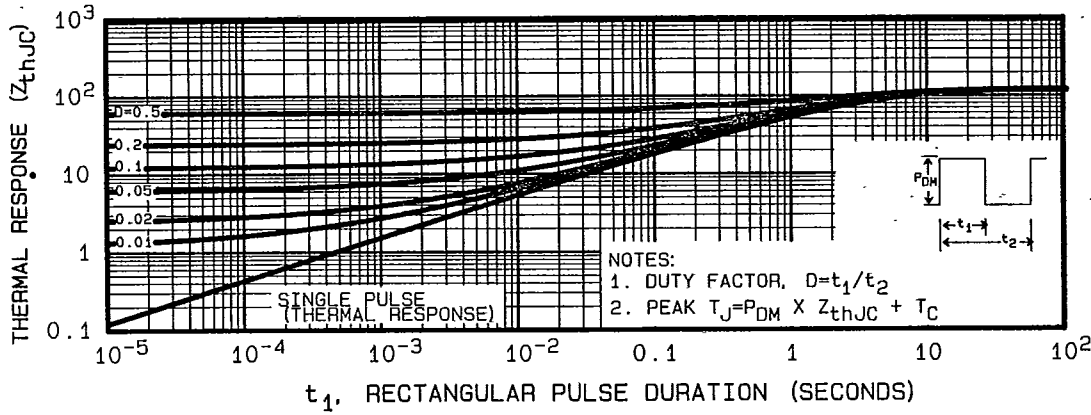

Fig. 5 — Maximum Effective Transient Thermal Impedance, Junction-to-Case Vs. Pulse Duration
- ①  $T_J = 25^\circ\text{C}$  to  $150^\circ\text{C}$
- ② Repetitive Rating: Pulse width limited by max. junction temperature. See Transient Thermal Impedance Curve (Fig. 5).
- ③ @  $V_{dd} = 25\text{V}, T_J = 25^\circ\text{C}$